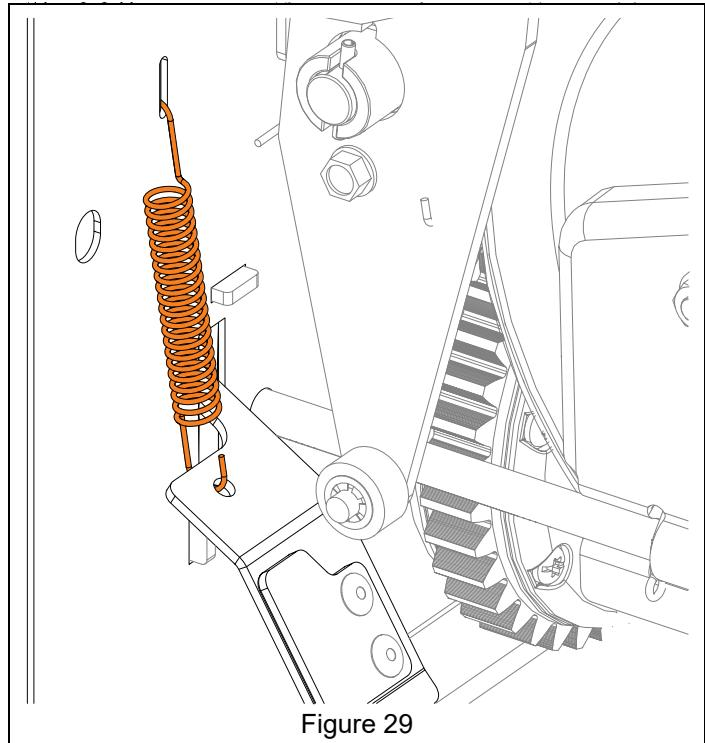

Figure 29
3. Reinstall attachment brake spring onto frame. See Figure 29.